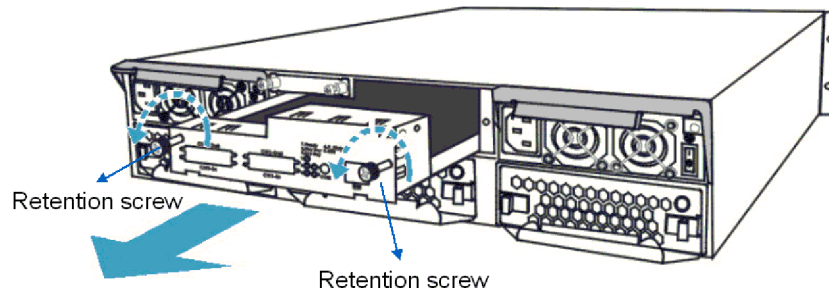

Figure 5- 1: Loosen Controller Module Retention Screws
Step 4. **Loosen the retention hand screws:** Hard screws are located on both sides of the RAID controller's faceplate. Press these screws and use a Phillips screwdriver to loosen them so that the controller can be removed from chassis. (See **Figure 5- 1**)